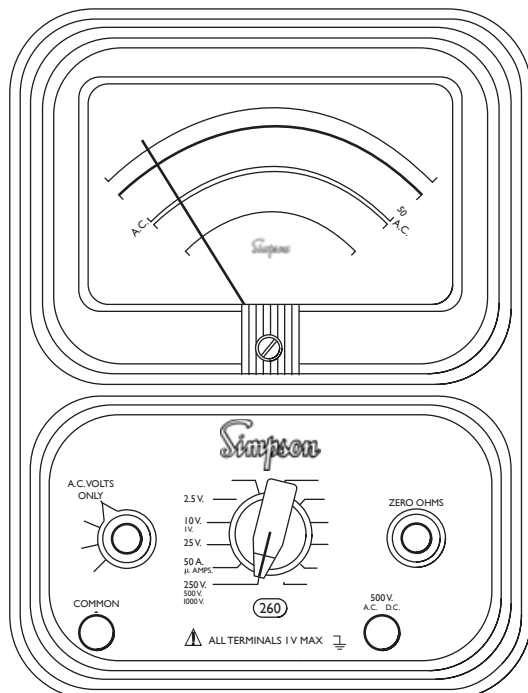

FIGURE 4-6. Jacks and Switch Positions for Measuring AC Voltage 0-2.5 Through
- a. Set the function switch to AC Volts Only position (Figure 4-6).